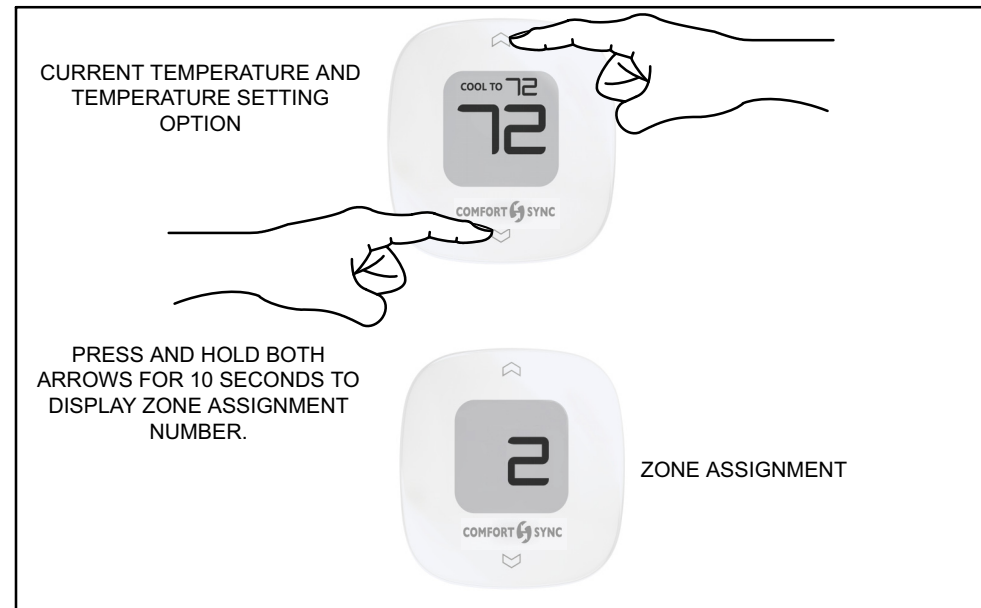
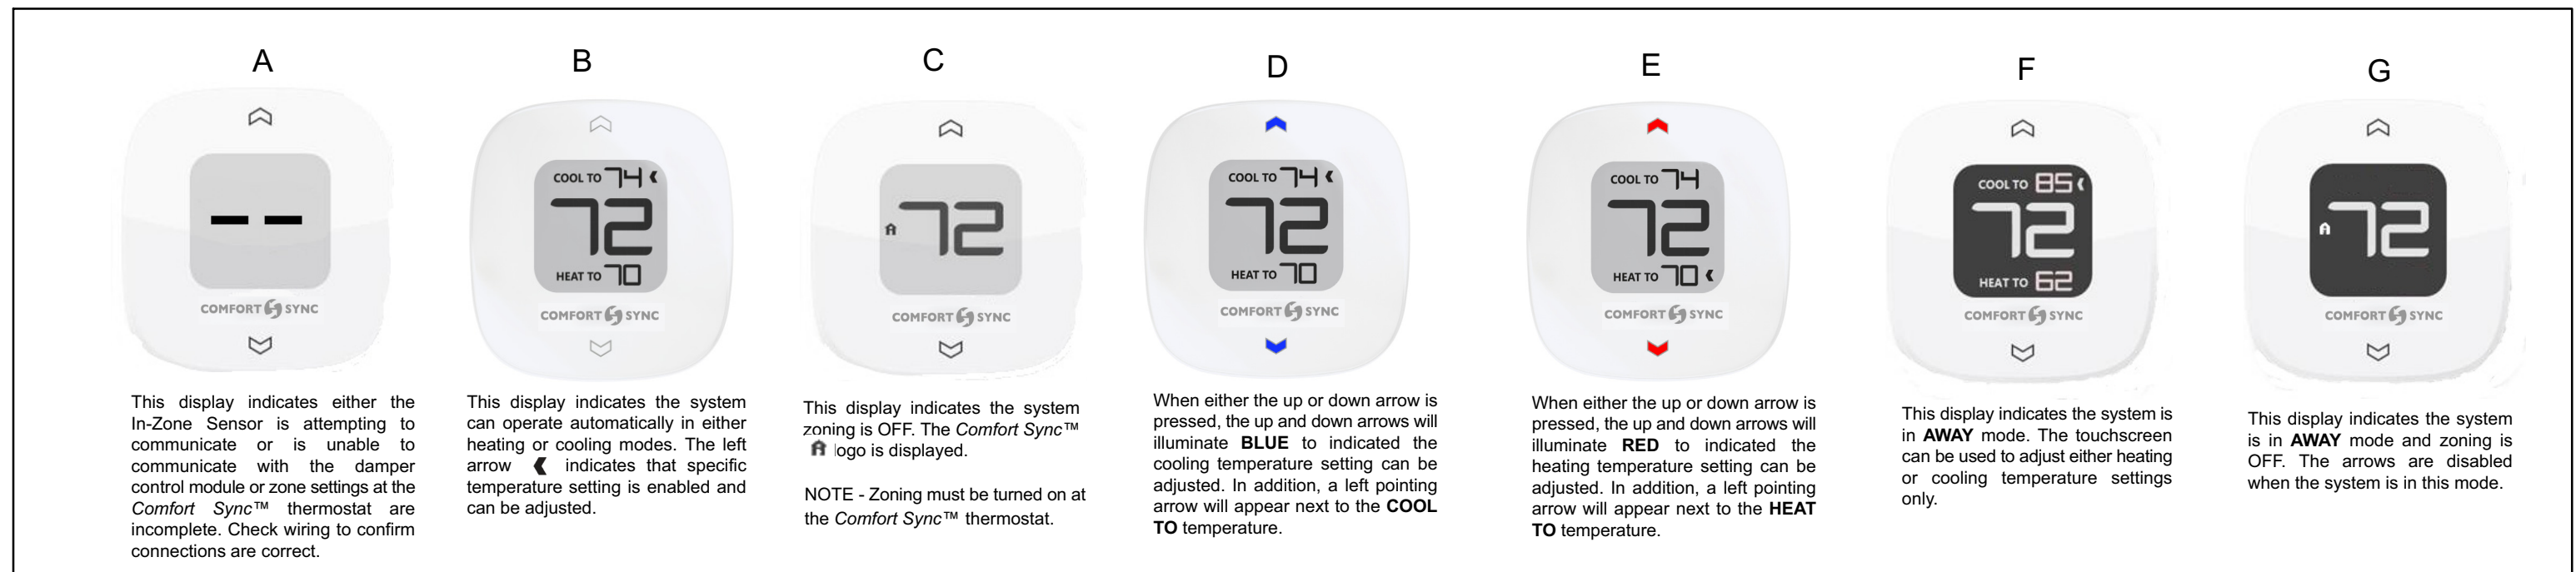

Figure 5. Displaying Zone
Figure 8. Various In-Zone Sensor Displays
1. When powered on, the In-Zone Sensor will display the default zone setting for 2 seconds (see figure 5) before displaying the heating and/or cooling temperature setting. If the device is unable to communicate with the damper control module, two dashes will appear (see figure 8, display A).